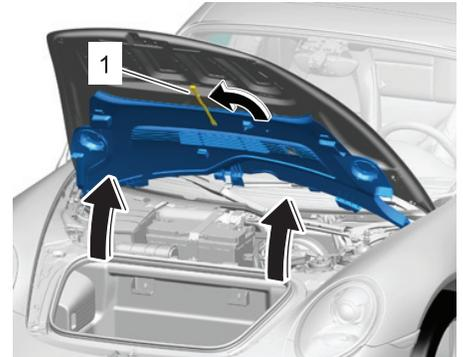

Fig. 2 Cover service position
2. Lift up cover and engage yellow support (1) in luggage compartment lid, **Fig. 2**.